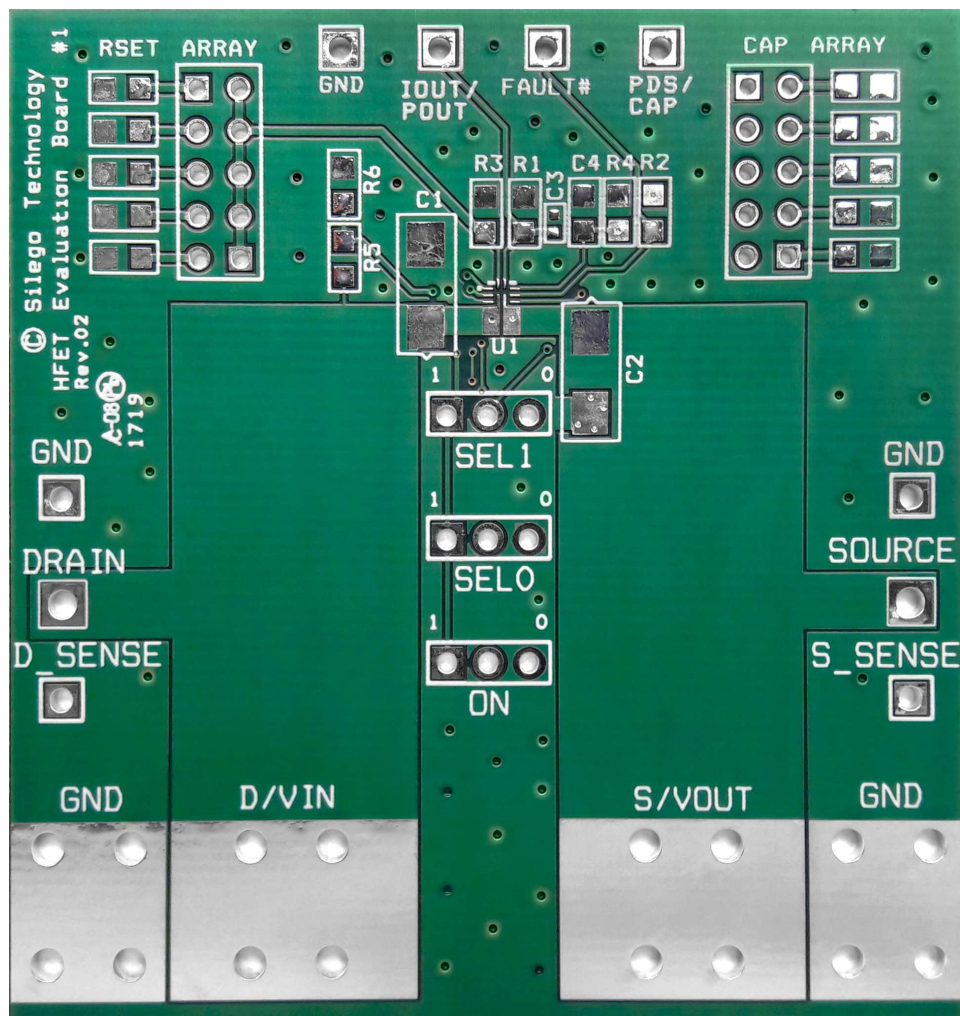

Figure 17. SLG59H1016V Evaluation Board
1. Since the VIN and VOUT pins dissipate most of the heat generated during high-load current operation, it is highly recommended to make power traces as short, direct, and wide as possible. A good practice is to make power traces with absolute minimum widths of 15 mils (0.381 mm) per Ampere. A representative layout, shown in Figure 17, illustrates proper techniques for heat to transfer as efficiently as possible out of the device;
A High Voltage GreenFET Evaluation Board for SLG59H1016V is designed according to the statements above and is illustrated on Figure 17. Please note that evaluation board has D\_Sense and S\_Sense pads. They cannot carry high currents and dedicated only for  $RDS_{ON}$  evaluation.